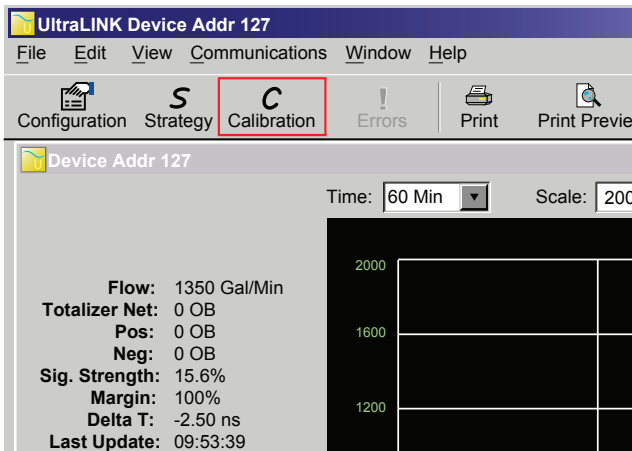

Figure 17: Data display screen
2. From the tool bar, select **Calibration**. See *Figure 17*.